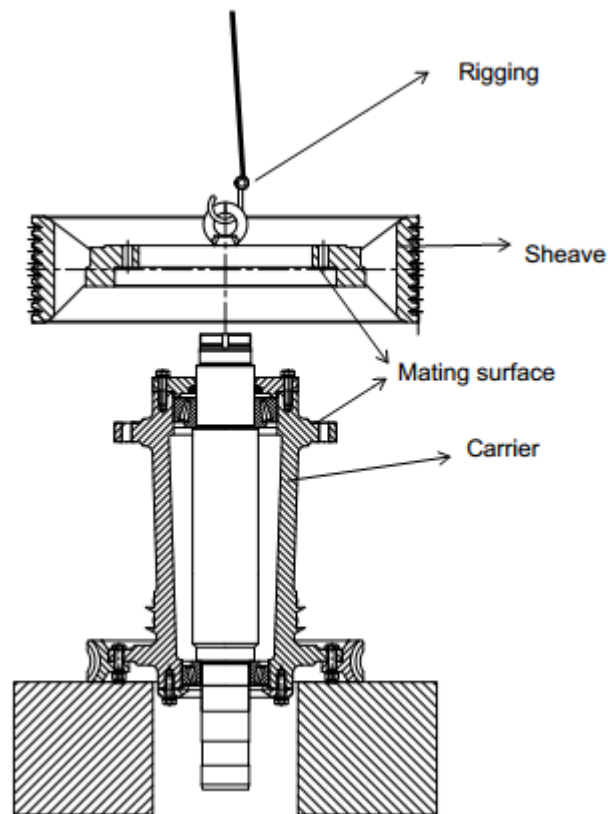

Figure 28 Sheave replacement
4. Quickly slide the heated sheave fully onto the carrier. With a gloved hand ensure that the sheave is lined up with the holes in the carrier. (A drift pin or M20 bolt may be used.) See Figure 28.